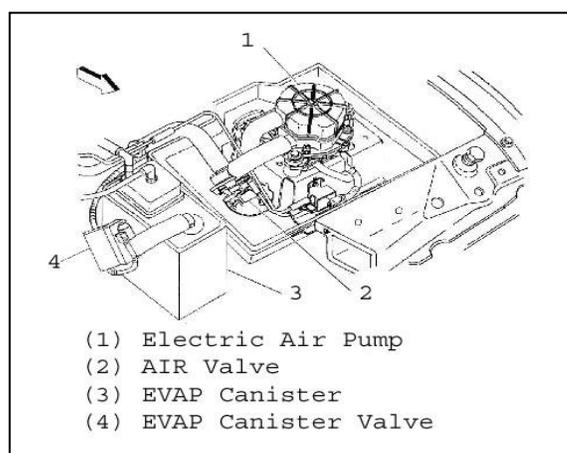

FIGURE 6.7 Air Pump Connections
B. The secondary Air Injection (AIR) system helps reduce hydrocarbon (HC), carbon monoxide (CO), and oxides of nitrogen (NOx) exhaust emissions.
- 1. AIR PUMP (not equipped on all models)** - The AIR pump assembly is mounted in the right rear corner of the engine compartment and supplies the air to the AIR system. The electric air pump sends air to the check valves near the exhaust manifolds. The AIR pump is controlled by the Powertrain Control Module (**PCM**) through the AIR pump solenoid relay. Battery voltage to the AIR pump is controlled by the AIR pump solenoid relay. A vacuum operated shut off valve prevents air flow during OFF periods. When the PCM provides a ground circuit for the secondary AIR pump solenoid relay, battery voltage applies power to the AIR pump and the solenoid. Intake manifold vacuum is then applied through the solenoid to the vacuum operated shut off valve. The vacuum operated shut off valve then opens up and allows air to be delivered to the check valves. **See Figure 6.7**